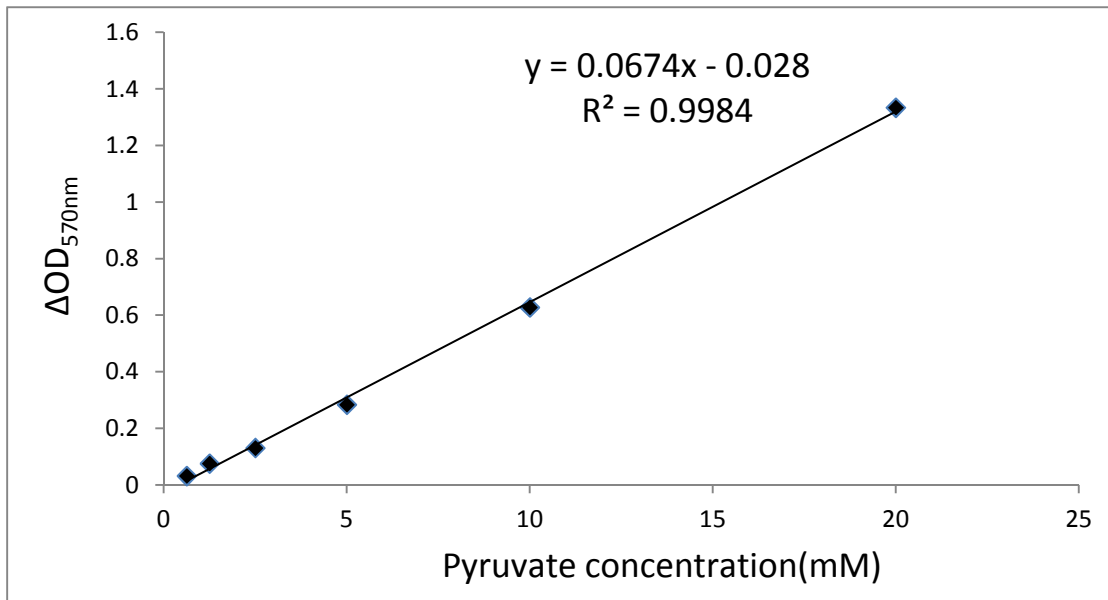

Figure1. A typical pyruvate standard curve measured by ScienCell™ Pyruvate Assay kit
Data from Pyruvate Assay of pyruvate solutions with concentrations ranging from 0.05 to 20 mM show a linear relationship between OD_{570nm} and pyruvate concentration (Figure 1).
2. Based on the calibrated ΔOD_{570nm} of the pyruvate standard, make a standard curve by plotting ΔOD_{570nm} as a function of pyruvate concentration (See Figure 1 for a typical standard curve). Determine the equation and R^2 value of the trend line.